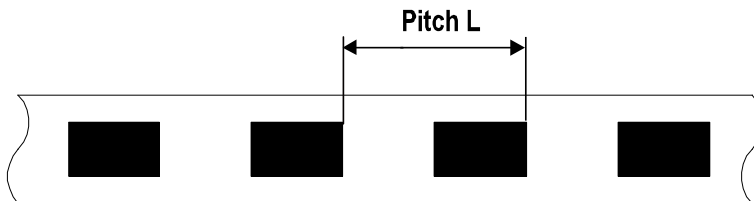

Figure 7-63 Standard pitch
Step 2: Set the "Standard Tune Dis." to the value of L shown in Figure 7-63; (Step b in Figure 7-62)